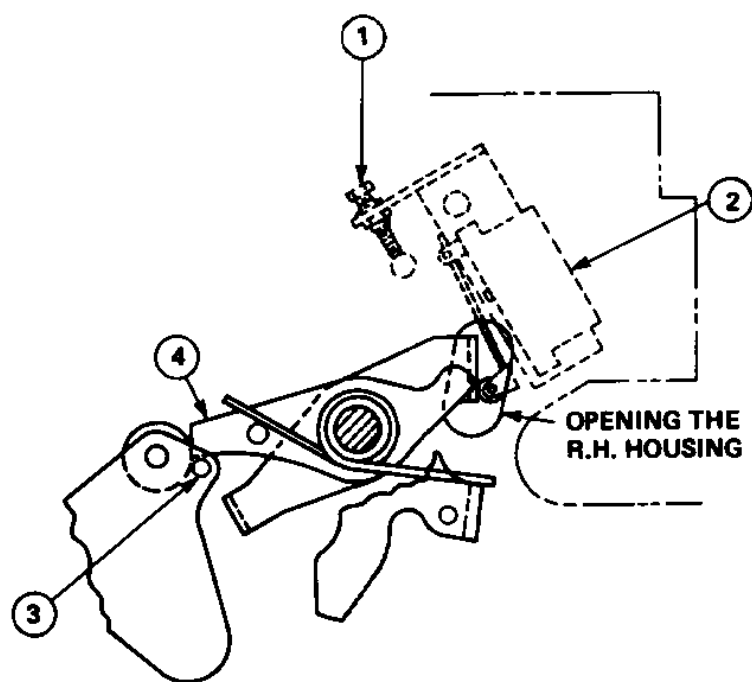

Fig. 5 - Latch Check Switch Adjustment
**5.9 OPERATING MECHANISM (See Figure 5)**